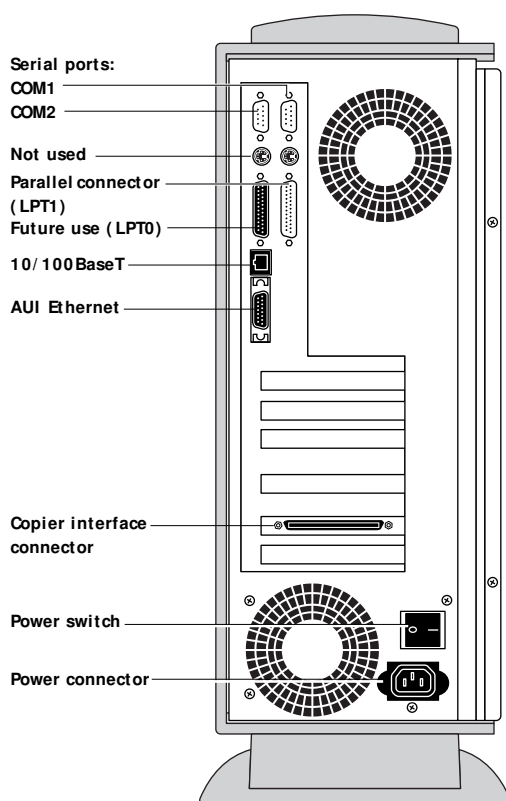

FIGURE 5-3 Back panel of Fiery ZX
- All interface cables to the system are plugged into the proper connectors on the back panel of the Fiery ZX (see Figure 5-3).